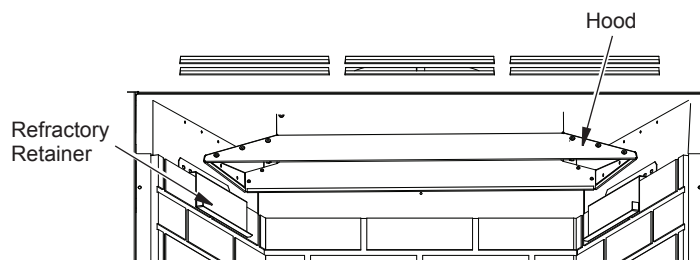

Figure 20 - Installing PureFire Hood
3. Lift the hood up into the fireplace at an angle with the rear facing up. Set the front section of the hood on the refractory brackets. Then tilt the rear toward the back of the fireplace so the hood is resting on refractory brackets (see Figure 20). The rear of the hood will be touching the rear of the fireplace.